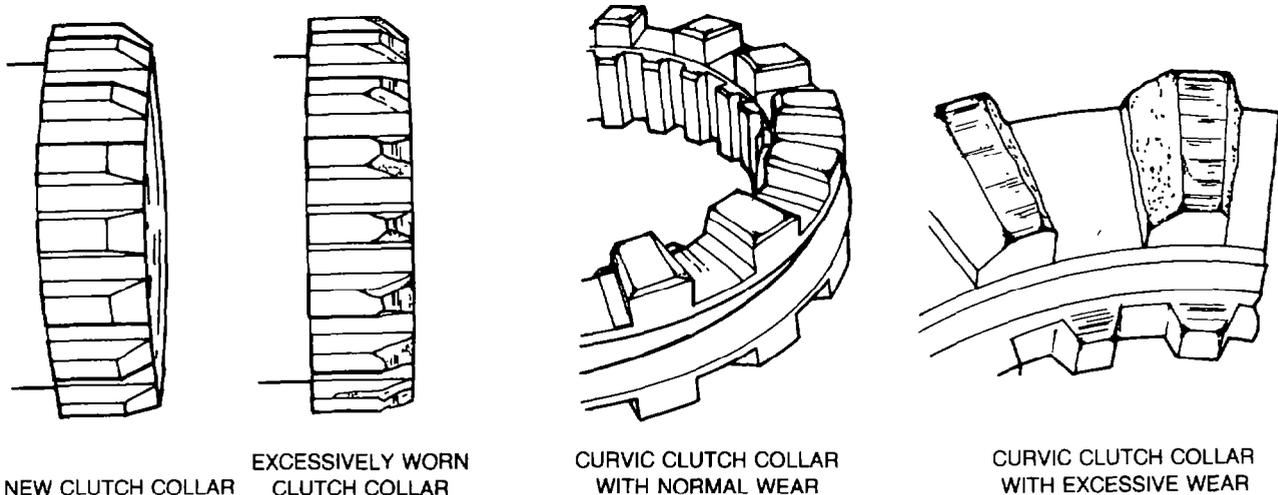

Figure 171 — Clutch Collar Wear
- f. Inspect the teeth on the clutch collars and curvic clutch collars for wear on the leading edge of the teeth (see Fig. 171). Replace the clutch collars if excessive wear or damage is evident.